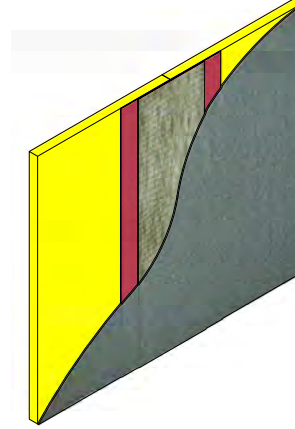

Figure 20
3. Mix and apply ACROSTOP-R per the product bulletin instructions over substrate. (See Figure 20)